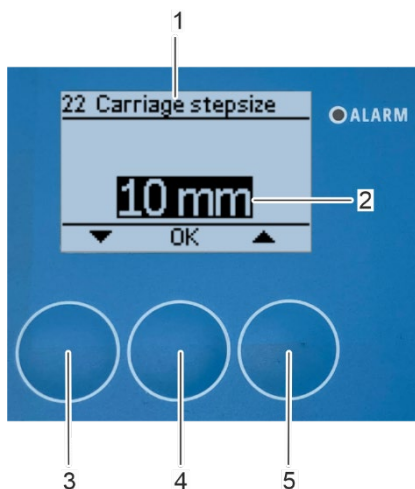

Fig. 128: Set carriage stepsize
⇒ The "22 Carriage stepsize" submenu appears on the display (Fig. 128/1).
3. Set the carriage step size with the arrow keys [up] (Fig. 128/5) and [down] (Fig. 128/3).
4. Confirm the selection with [OK] (Fig. 128/4).